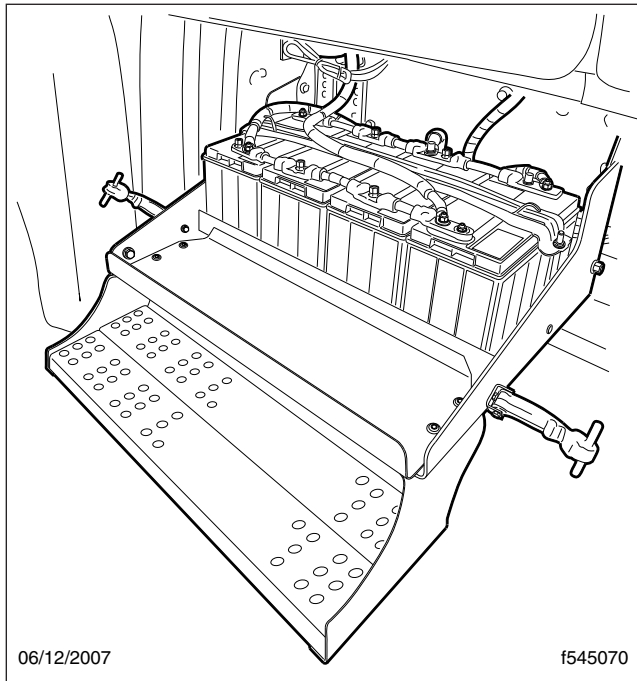

Fig. 24.4, Battery Compartment
2. Remove the battery box cover by pulling on the end of each hold-down latch until the end clears the catch, then pivoting the latches out of the way, and lifting off the cover. See Fig. 24.4.